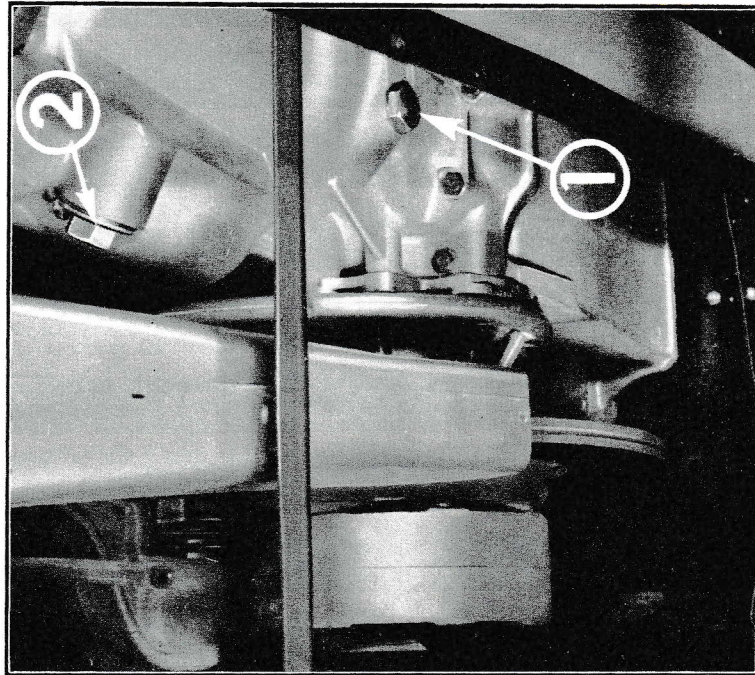

Figure 25
- Every 3,700 miles check the gearbox oil level. It must be level with the edge of the filler cap 2 (fig. 25). Top up, if necessary, with S.A.E. 90 " extreme pressure " oil.
- Every 12,000 miles it is advisable to have the gearbox drained by a Citroën dealer. Drain plug at 1 (fig. 25).